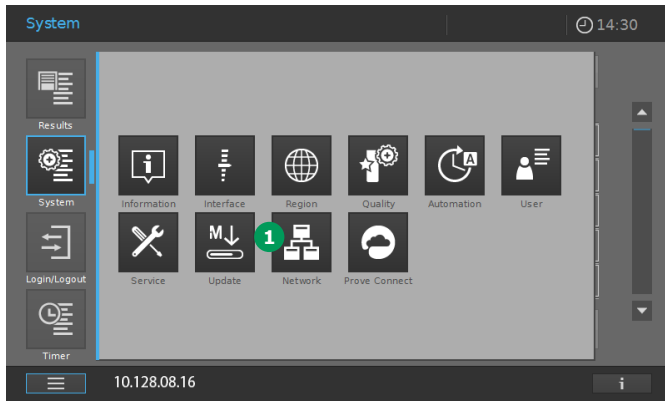

Figure 23 - Screen of Spectroquant® Prove / Prove plus after clicking on "System"
1. Open the Network tab **1** (Figure 23) in the Prove System menu.